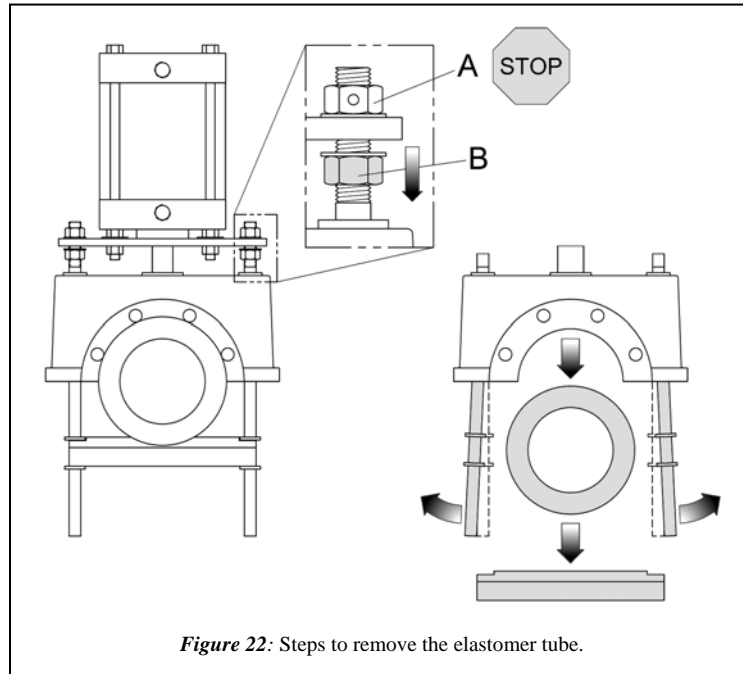

Figure 22: Steps to remove the elastomer tube.
STEP 4: Loosen the B-nut (Fig. 22). Take care that the A-nut does not turn. Spread the pull bars apart to take away the lower pinch bar and remove the elastomer tube.